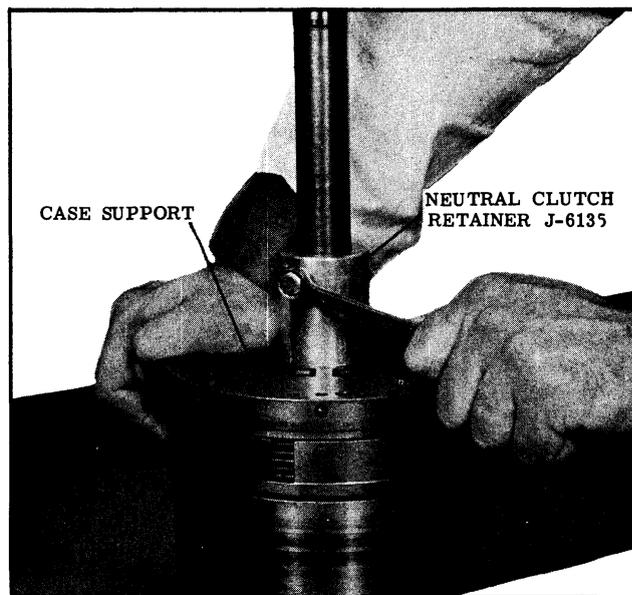

Fig. 3-86 Installing Neutral Clutch Retainer
32. Install Tool J-6135 over the intermediate shaft and push down on case support to compress clutch release springs, then tighten lock bolt. (See Fig. 3-86)